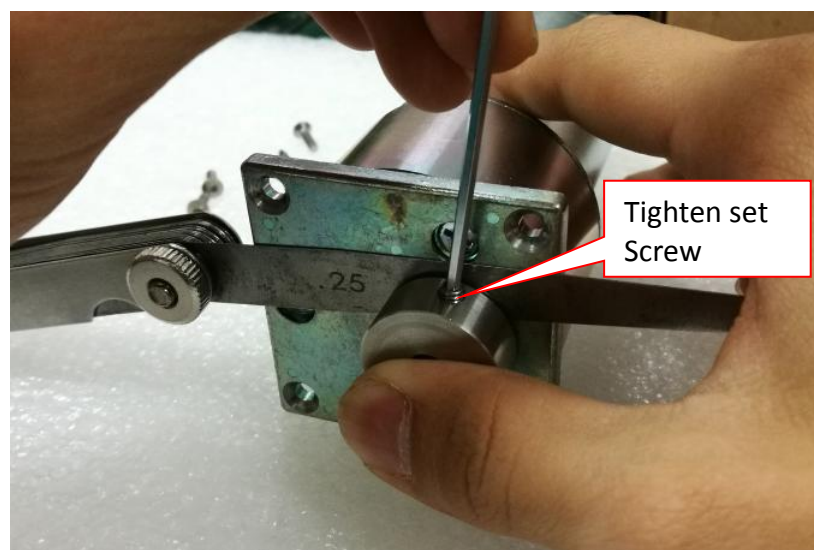

Figure 9 Belt Pulley Assembly
3. While maintain Fillet Gauge position, tighten Set Screw as shown in Figure 9.